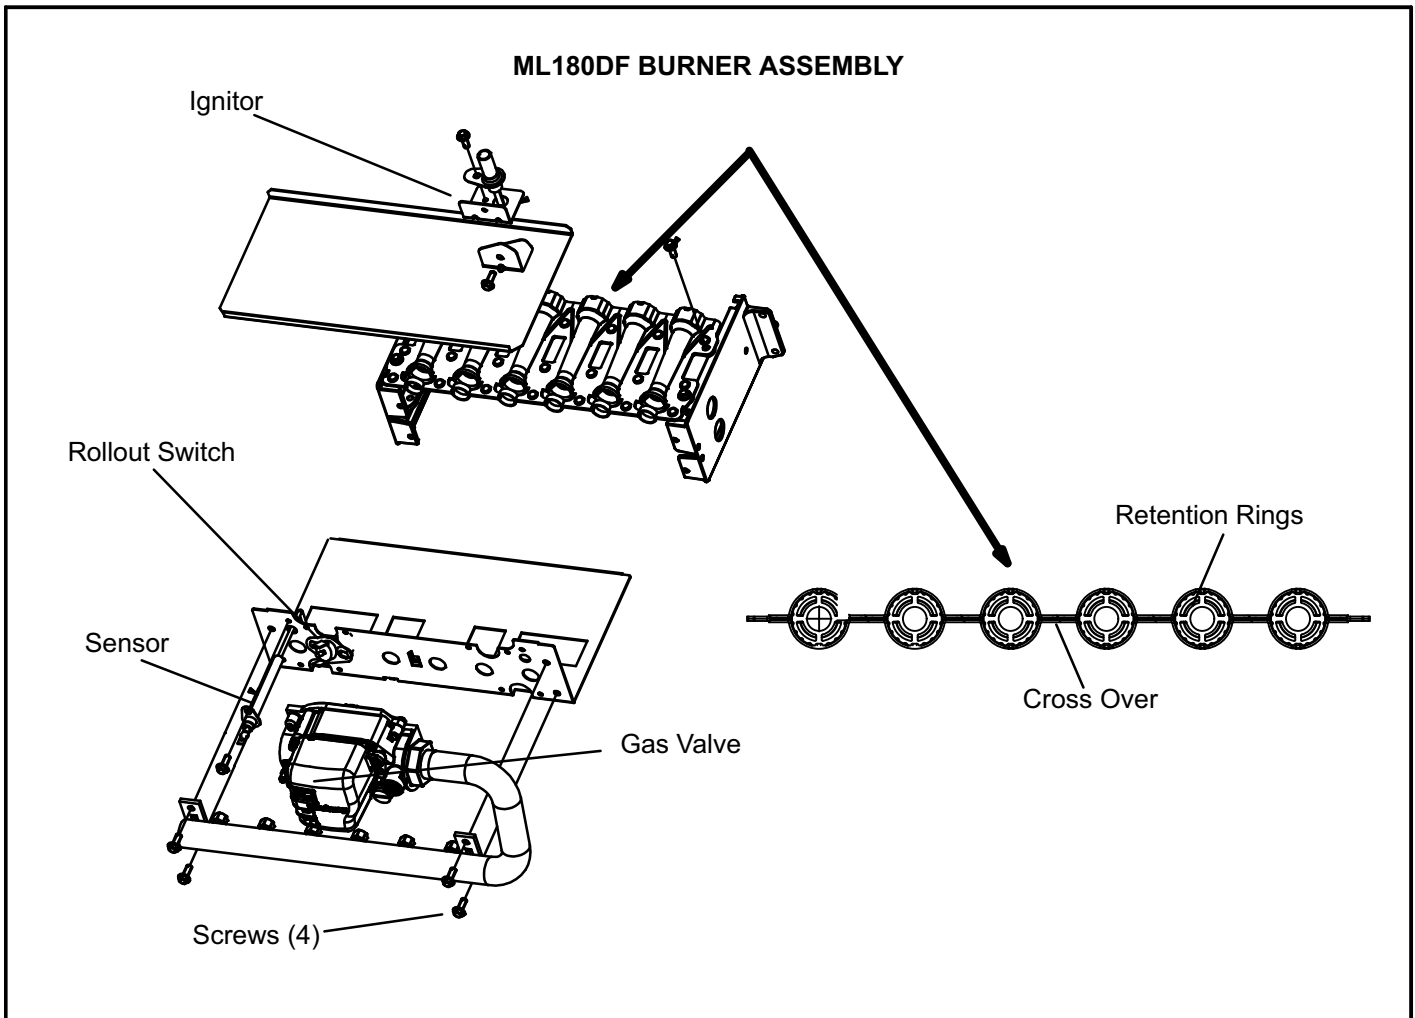

FIGURE 25
- 6 - To clean burners, run a vacuum cleaner with a soft brush attachment over the face of burners. Visually inspect inside the burners and crossovers for any blockage caused by foreign matter. Remove any blockage. Figure 25 shows burner detail.